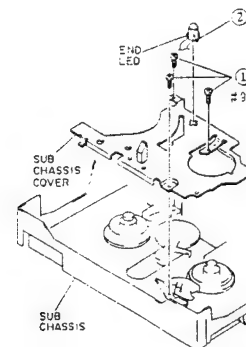

Fig. 2-44
- 1) Remove three (3) screws holding the sub chassis cover. (See Fig. 2-44)
- 2) Release one (1) tab and remove the end LED from the sub chassis cover.